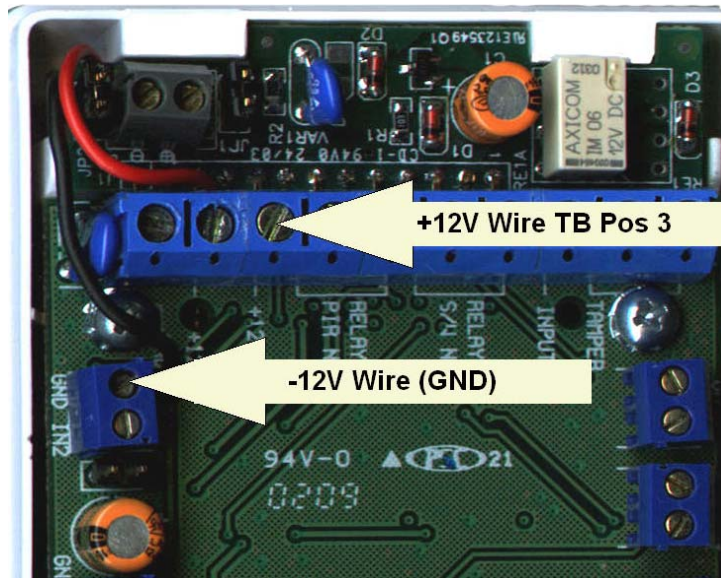

Figure 5 External Camera Power Connections
When configured for standby mode, external camera power is connected as shown in Figure 5 below.
2. Thread the -12V wire (GND) from each external camera through an aperture in the rear plastic cover, and then connect it to the **GND** terminal as shown in **Figure 5** above.